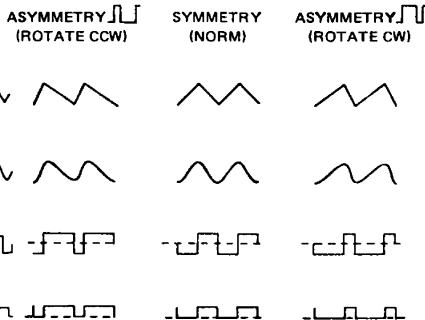

Figure 3-2. Effect of SYMMETRY Control
Normal symmetrical output results when SYMMETRY is set to OFF; an asymmetrical, or unbalanced, waveform results when SYMMETRY is set between ⑪ and ⑫. (Asymmetrical operation reduces generator frequency to approximately 1/10th the normal output.) Figure 3-2 shows the effect of SYMMETRY control on the waveforms.